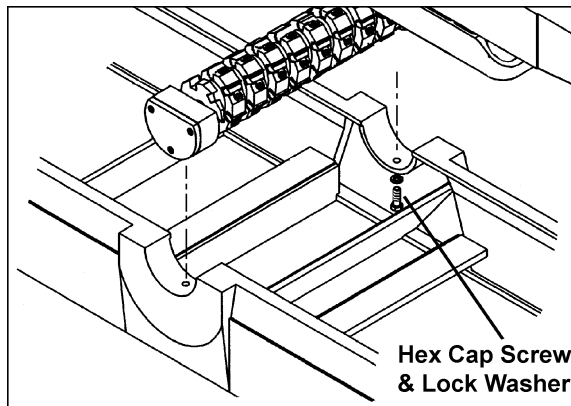

Figure 32
5. Remove the two hex cap screws and lock washers that hold the cutterhead to the bed – these are accessed from the underside of the bearing blocks as shown in Figure 32.